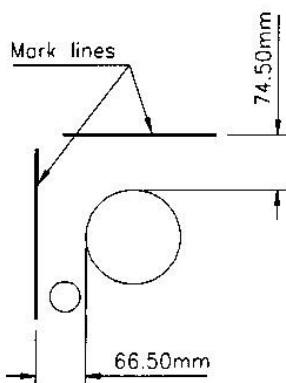

Fig. 8
11. On the outside wall measure and mark two guide lines as shown in Fig. 8 to assist in locating the wall plate centrally within the connecting duct.